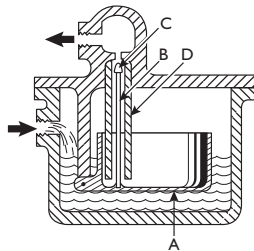

Fig. 44-2 Open-bucket trap.
An *open-bucket* trap is shown in Fig. 44-2. In operation, the condensate floats the bucket (A), which pushes up on rod (B), closing the valve (C). As the condensate continues to build up and it spills over the top of the bucket, sinking it, thus opening the valve.